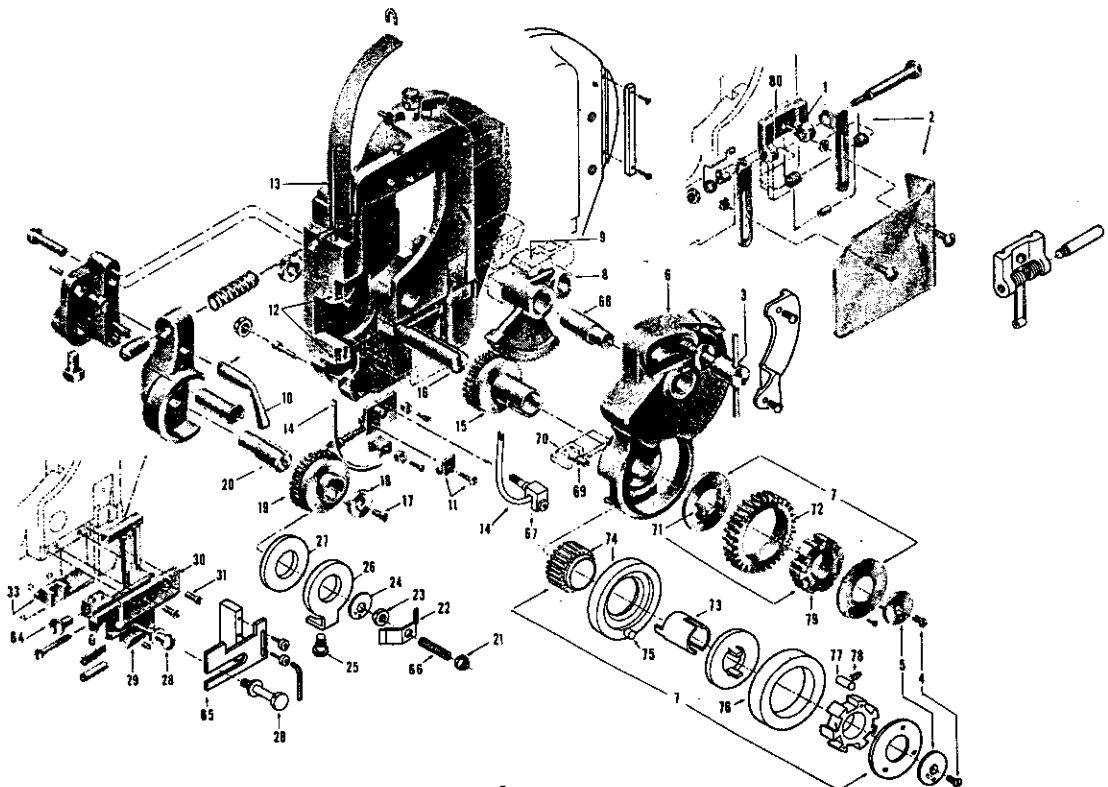
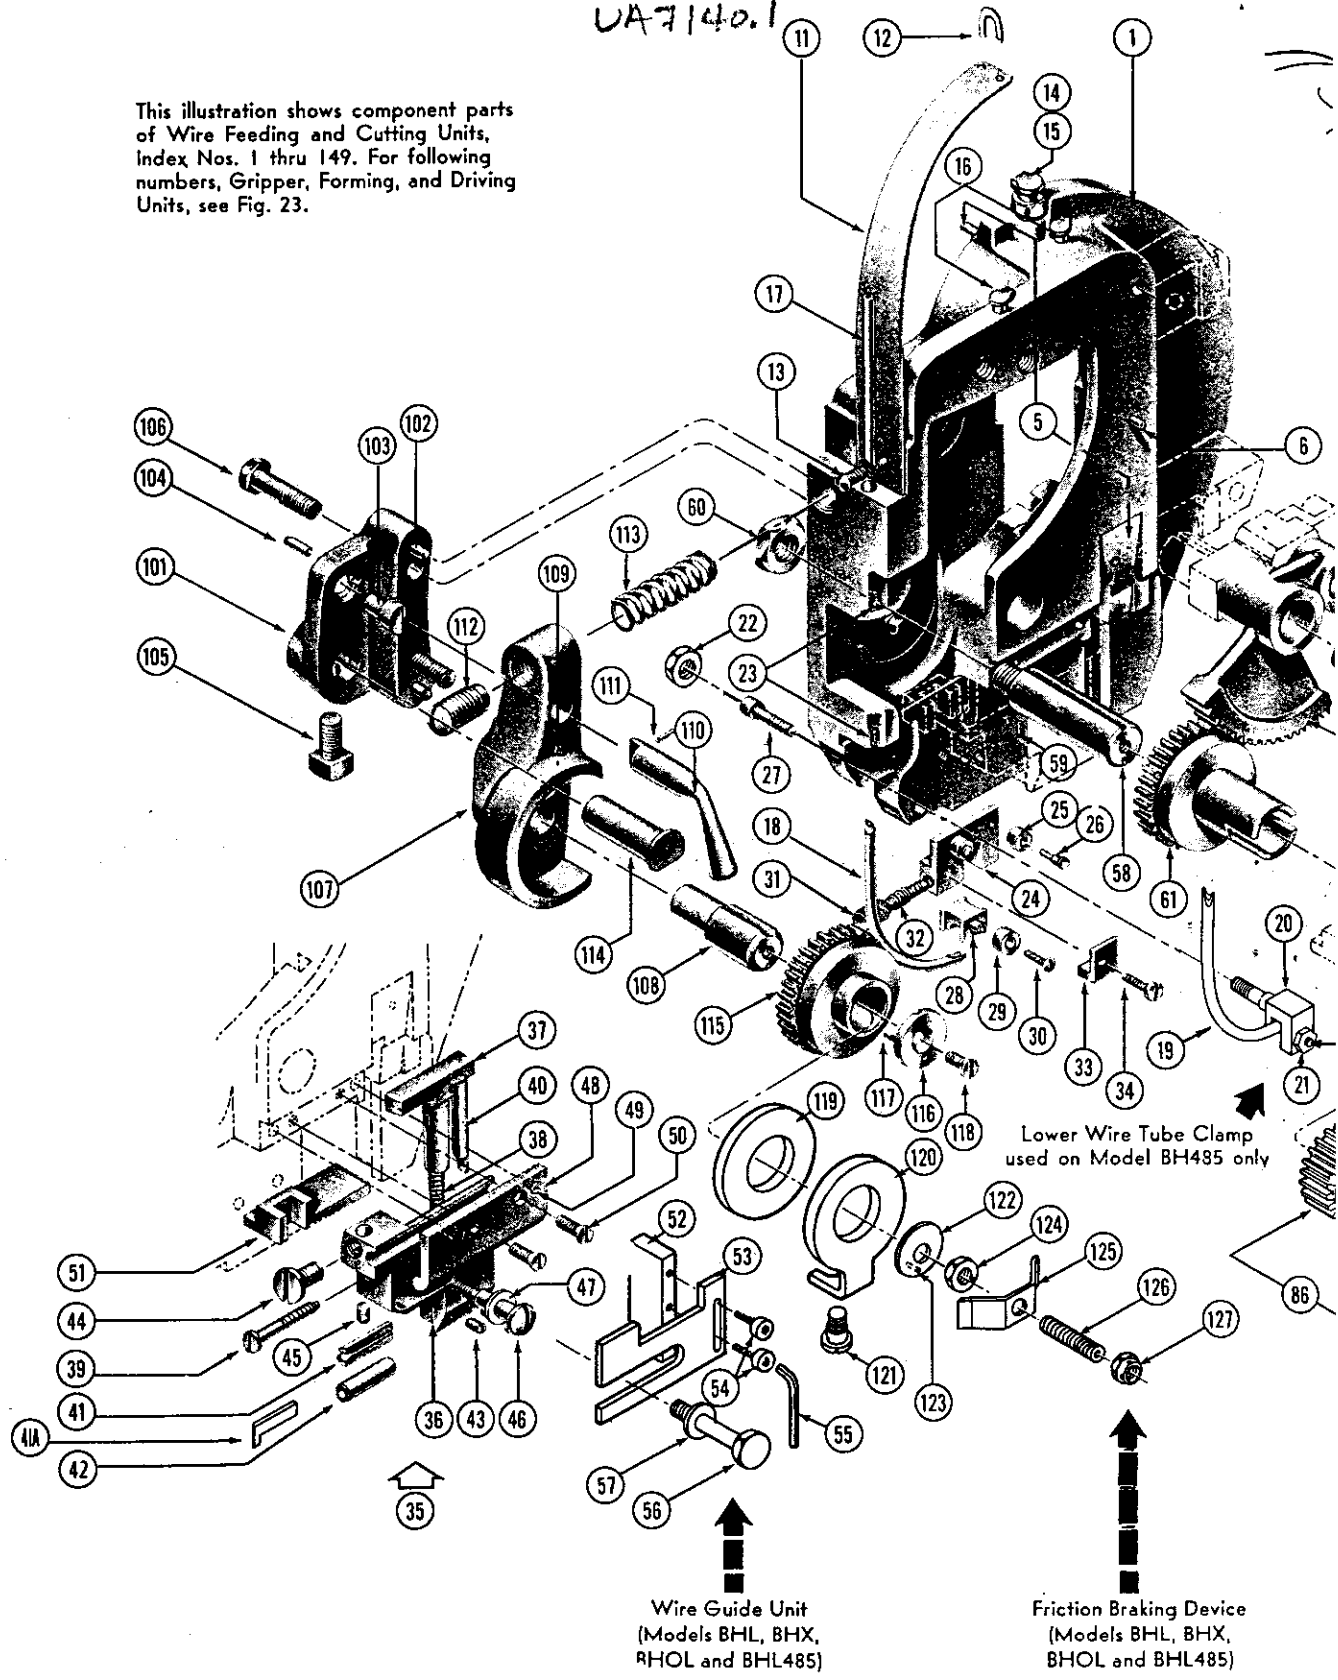

Figure 21—Disassembling and Reassembling Stitcher Head
Figure 22—Stitcher Head Component Part
1. HOW TO DISASSEMBLE AND REASSEMBLE STITCHER HEAD (See Fig. 21)
Figure 21 illustrates the disassembling and reassembling procedures only and is not intended to identify parts for purposes of ordering parts. For ordering parts see Fig. 22 and 23, and the accompanying Parts List.
a. HOW TO REMOVE WIRE FEED, WIRE CUTTING, AND GRIPPER ASSEMBLIES (See Fig. 21).
b. HOW TO REMOVE WIRE FORMING AND DRIVING ASSEMBLIES (See Fig. 21).
c. HOW TO REINSTALL WIRE FORMING AND DRIVING ASSEMBLIES (See Fig. 21).
d. HOW TO REINSTALL WIRE FEED, WIRE CUTTING, AND GRIPPER ASSEMBLIES (See Fig. 21).
The Parts List and accompanying exploded views of the head, Fig. 22 and 23, identify all component parts of the following models of BOSTITCH Bliss Stitcher Heads:
All parts listed are common to all of the above models of heads except where otherwise noted in the Parts List and accompanying illustrations. Those parts illustrated in line drawing in the accompanying illustrations, Fig. 22 and 23, are parts or assemblies used in heads other than the Standard Wire Draw head.
The component parts illustrated in the exploded views, Fig. 22 and 23, are identified by "Index Numbers" (circled numbers); these numbers are listed numerically in the first column of the accompanying Parts List.
a. Locate the required part in the exploded views of the head, Fig. 22 and 23, and note the Index No. (circled number) identifying the part in the illustration.
see Fig. 22 on pages 24 and 25